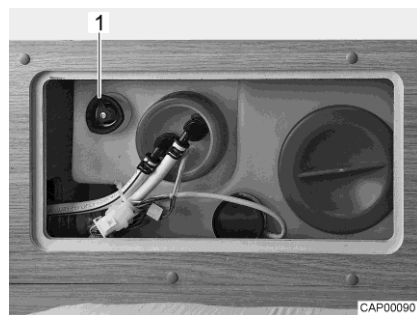

Fig. 103 Water tank with rotary handle
- Turn the rotary handle (Fig. 103,1) on the water tank in a clockwise direction as far as it will go.
- Turn the rotary handle (Fig. 103,1) on the water tank in an anticlockwise direction as far as it will go. Excess water will drain away leaving approx. 20 litres in the tank.